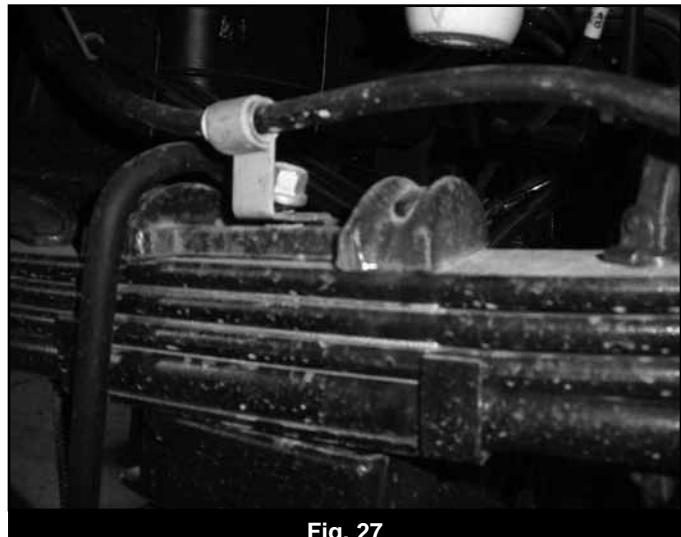

Fig. 27
73. Repeat the procedure on the driver's side. Disconnect the parking brake cable bracket from the center pin (Fig 27). Take care not to over extend the brake lines.